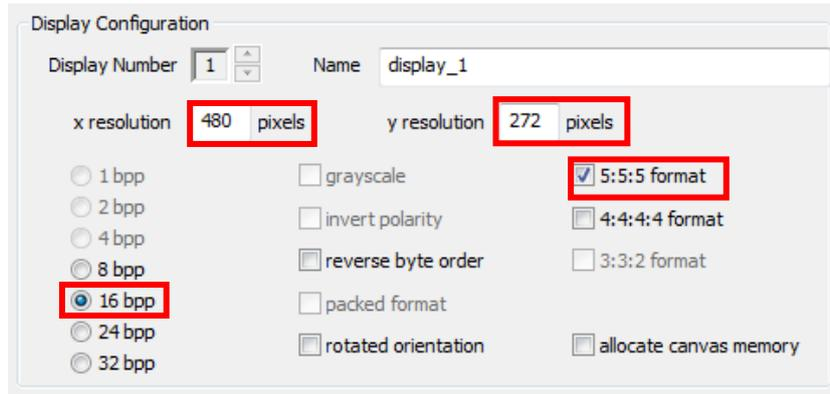

Figure 74 Configure the Display
14. Setup the Display Configuration as in Figure 74.